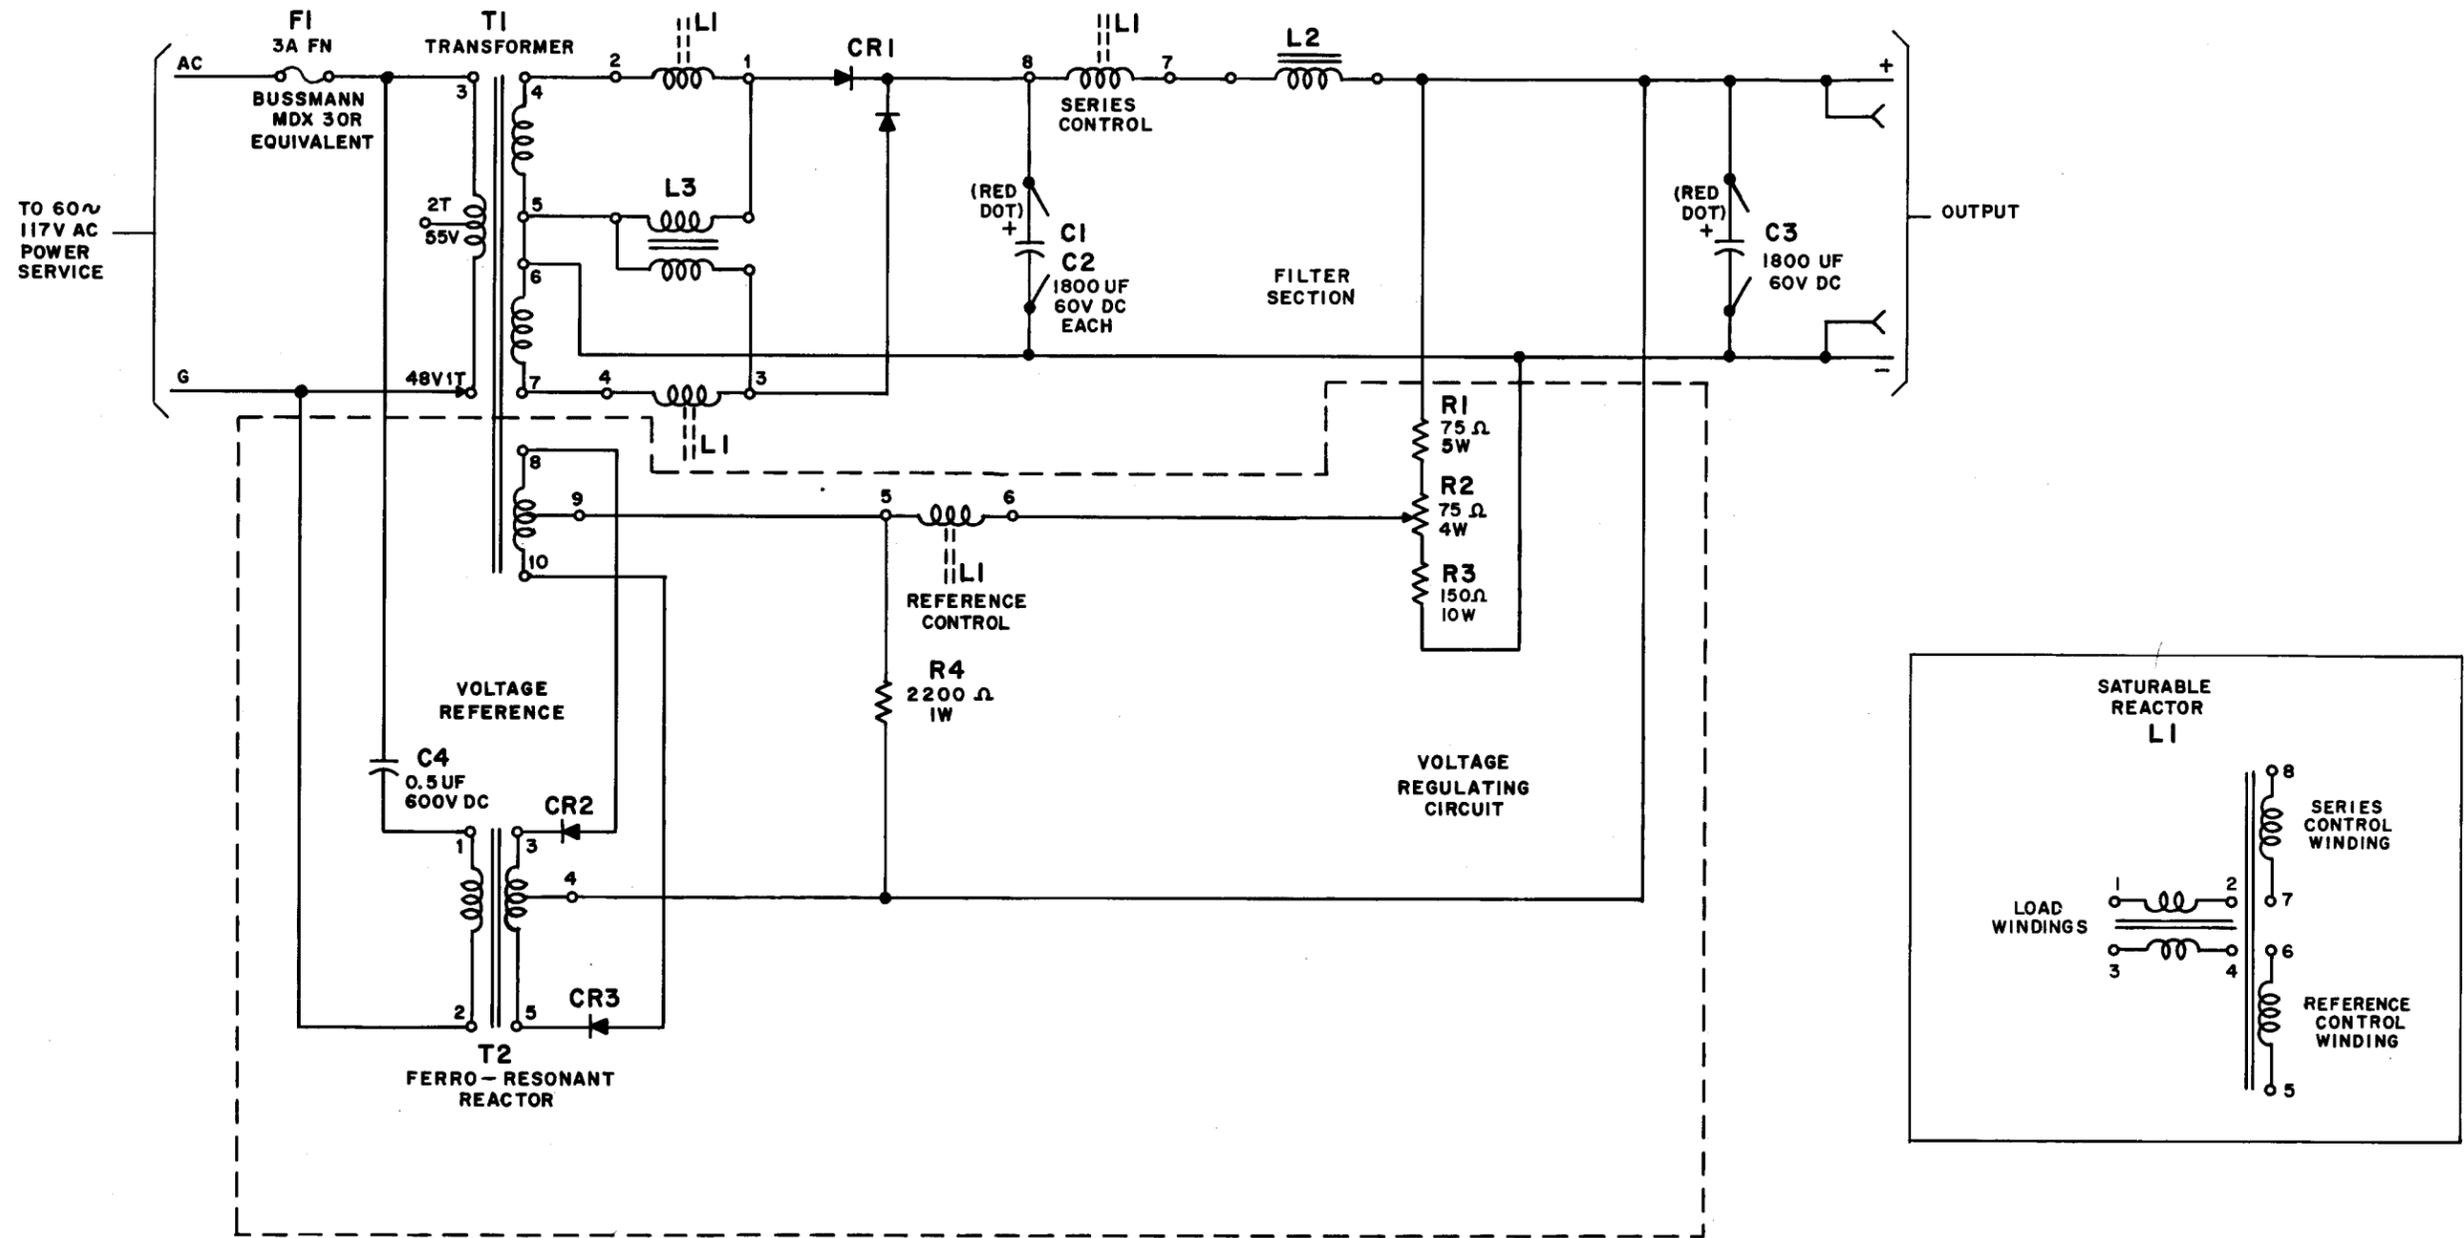

Fig. 5 — Functional Schematic KS-15620 L10 Rectifier
**KS-15620 L10 Rectifier (see Fig. 5 — functional schematic)**